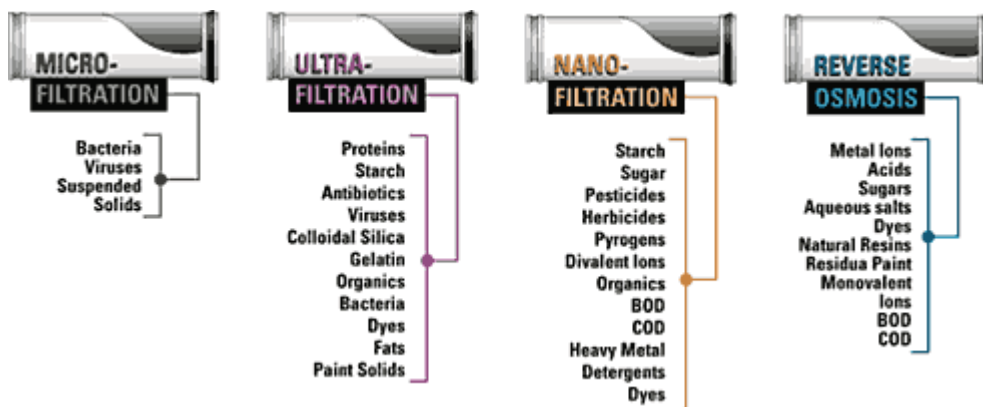

Figure 1.
With this monumental step forward, membrane technology took on a life of its own. Several new materials and membrane concepts developed rapidly. Membranes were applied for production of drinking water in arid areas and membranes were also applied in numerous industrial processes. The gap between RO and UF was filled around 1990 with a new technology, which was named nanofiltration (NF). Sodium chloride will typically pass through a nanofiltration membrane, but larger molecules, for instance contributors to hardness in the water, are rejected. (See Figure 1: Genesis of Membrane Technology)